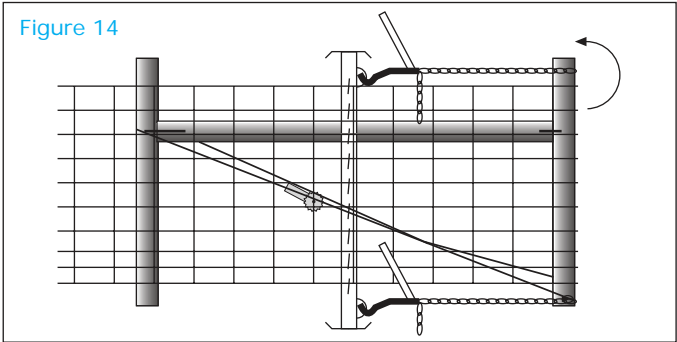

Figure 14
- Attach your stretcher bar to the fence near the middle of the brace. Make sure you can reach the end post with your tensioning device. When the stretcher bar is securely attached to the fence, hook two tensioning devices into its loops. Attach the tensioning device to end post and slowly tension the fence. (Figure 14) It is a good idea to stop and recheck the fence line for obstructions after you have started tensioning the fence. Finish tensioning the fence.